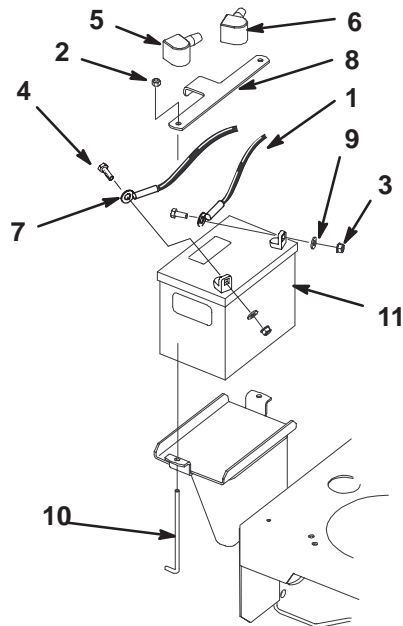

Figure 34
3. Lift the black rubber cover up on the negative cable. Disconnect the negative (black) ground cable from the battery post (Fig. 34).
4. Lift the red rubber cover up on the positive cable. Disconnect the positive cable (red cover) from the battery post (Fig. 34).
5. Remove the battery hold down plate (Fig. 34). Remove battery from the machine.
1. Place the battery into the machine (Fig. 34).
2. Secure battery with hold down plate, nuts and battery hold down (Fig. 34).
3. Using the bolt and nut, connect the positive (red cover) cable to the positive (+) battery post (Fig. 34). Slide the rubber cover over the battery post.
4. Using the bolt and nut, connect the negative (black) cable to the negative (-) battery post (Fig. 34). Slide the rubber cover over the battery post.